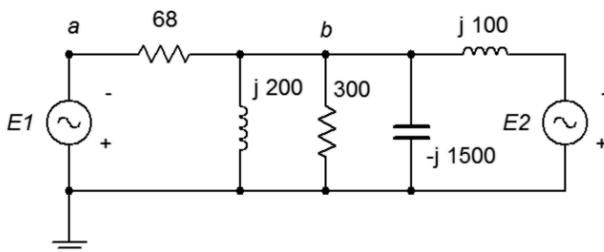

Figure 5.3
5. In the circuit of Figure 5.3, use Superposition to find  $v_b$ . Source one is one volt peak and source two is two volts peak.
6. In the circuit of Figure 5.3, use Superposition to find the currents through the two inductors. Source one is two volts peak and source two is three volts peak.